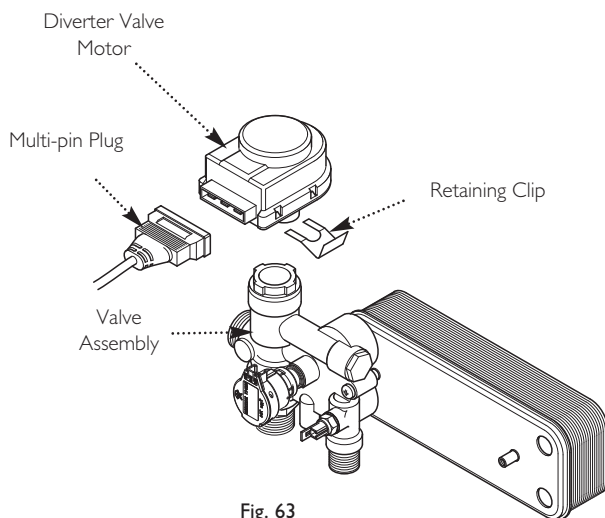

Fig. 63
13.18 Diverter Valve - Motor & Valve Assembly (Fig. 63)